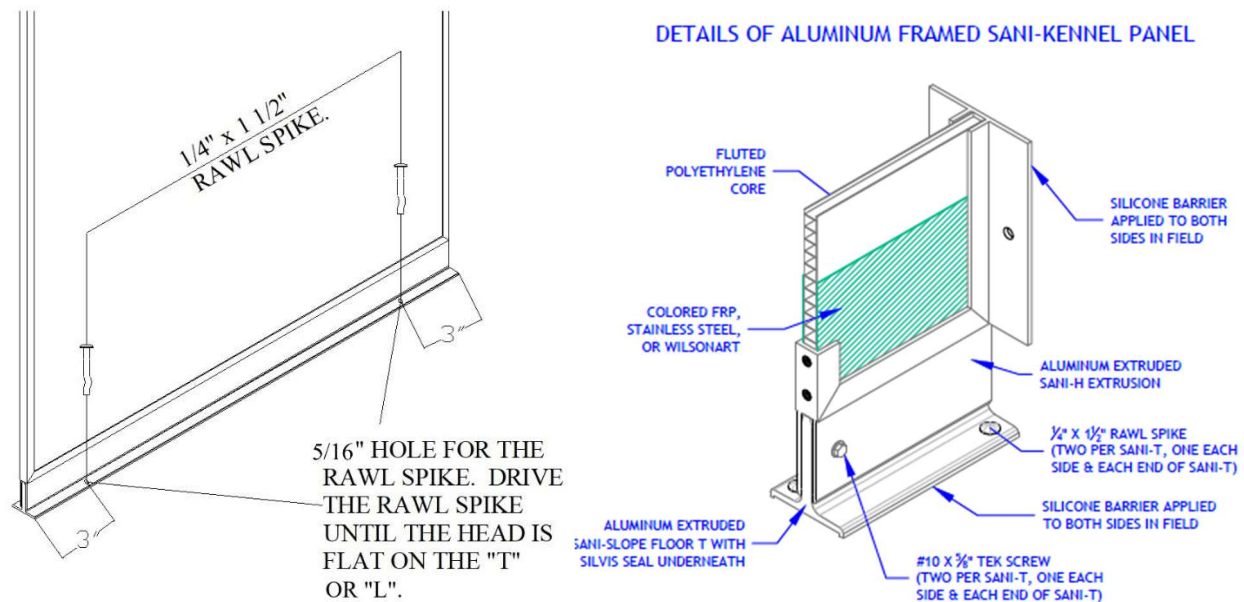

Figure 20
3. Repeat steps H-1 and H-3 for all hole locations shown in Figure 20.
2. Apply a thin bead of sealant provided along the seam created between the “Sanislope T” and the concrete as shown in Figure 20 above.